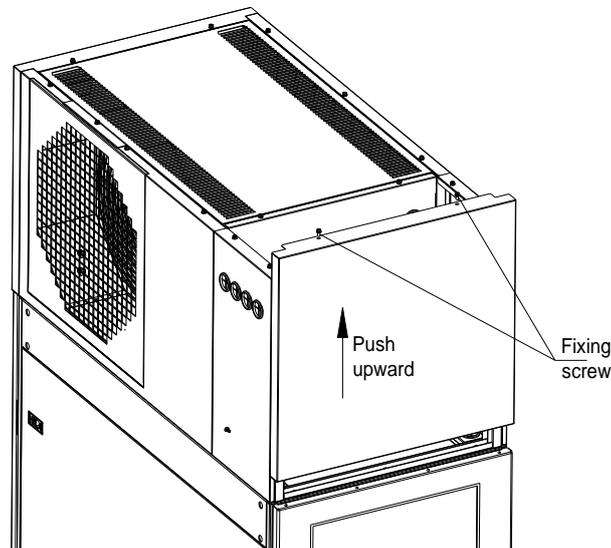

Figure 3-13 Top frame body-open the rear cover 1
1. First, open the outer cover in the rear part of the frame body, and the operating procedures are shown in Figure 3-13, and you need to remove the two screws on the top of the cover and then push upward to remove the cover.